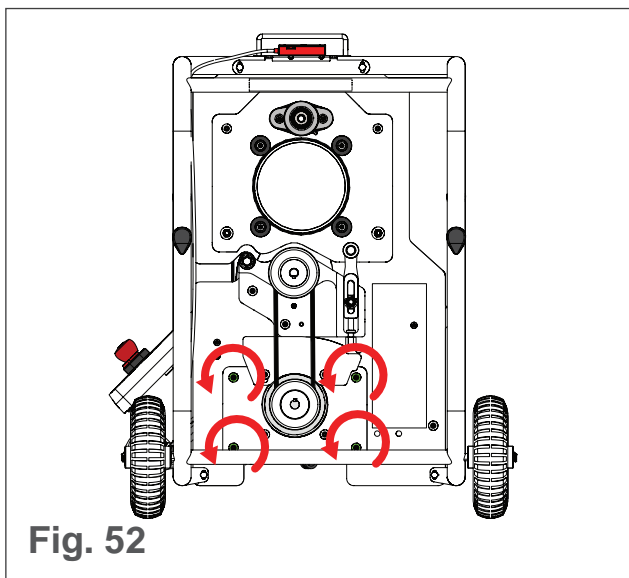

Fig. 52
5. Loosen all four bolts on the blade motor plate (see Fig. 52).